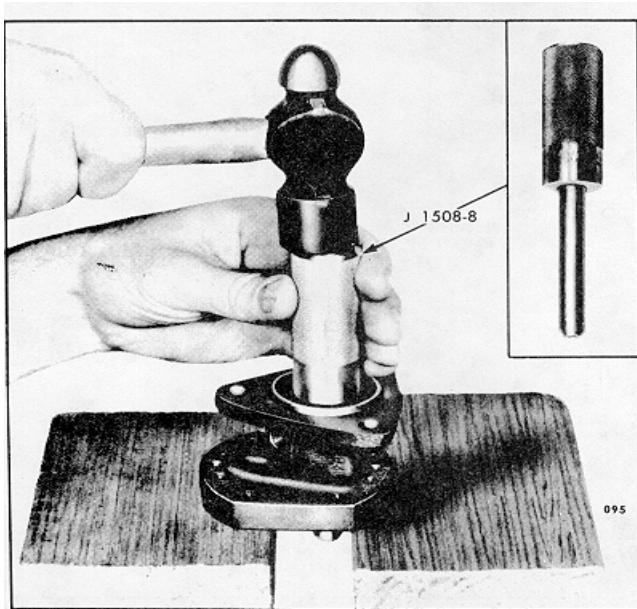

Fig. 7 Installing Inner Oil Sea
- b. With the pump body supported on wood blocks (Fig. 7), insert the pilot of the installer handle in the pump body so the seal starts straight into the pump flange. Then drive the seal in until it bottoms.